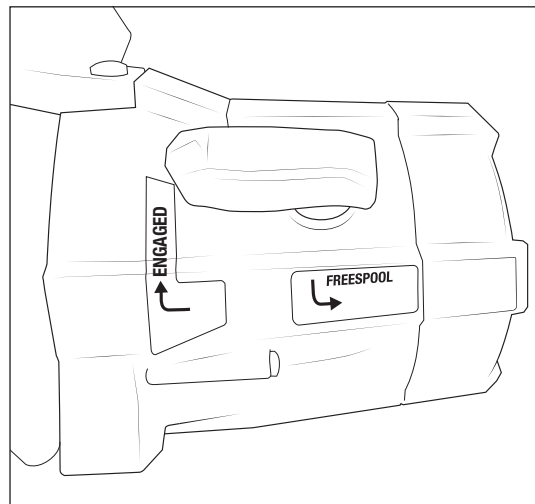

Figure 2
3. Once the winch is back together, remove the "Engaged" and "Freespool" labels and replace with provided labels in the orientation below in Fig 2. The new handle is backwards from the factory part.